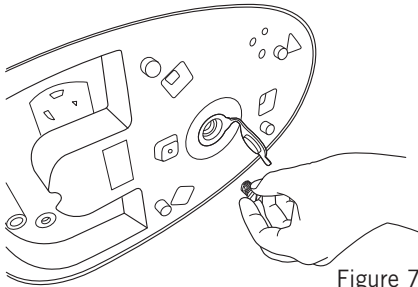

Figure 7
5. Remove the boiler cap completely. See fig 7